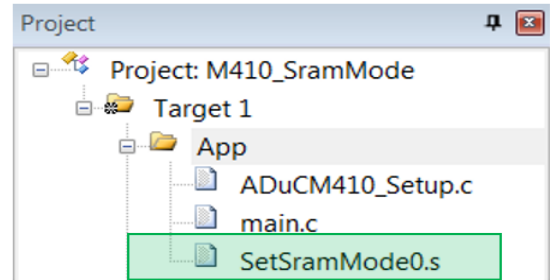

Figure 35. Set Up **SetSramMode0.s**
7. By default, the **M410_SramMode** macro uses SRAM Mode 0. The **SetSramMode0.s** assembly file is added to the subdirectory shown in Figure 35. Specify which SRAM mode to test in the **main.c** file. By default, SRAM Mode 0 is tested (see Figure 36).